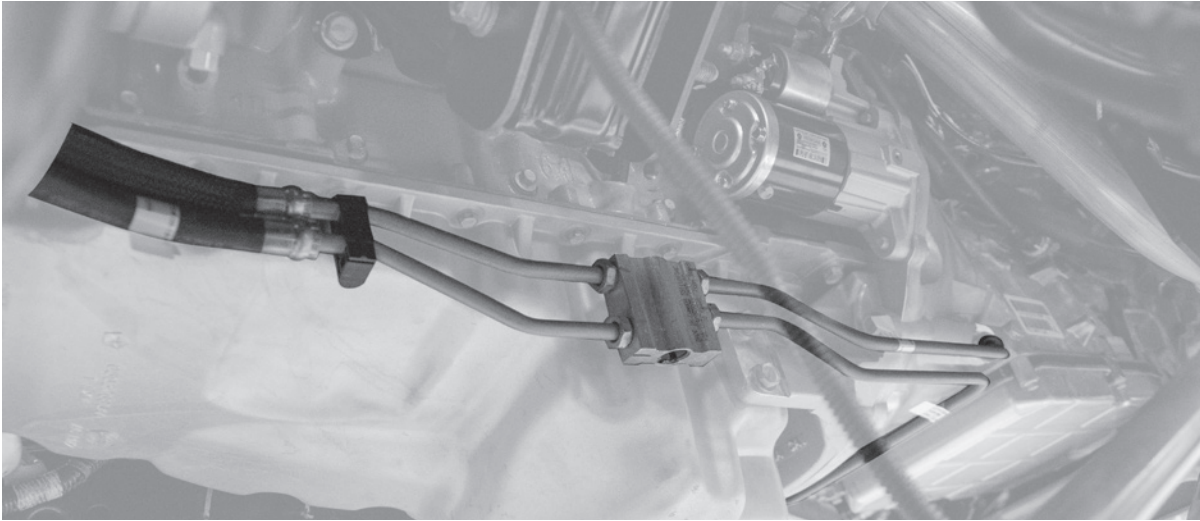

Figure 29
32. Install the new transmission oil cooler line assembly to the power train (fig 29).